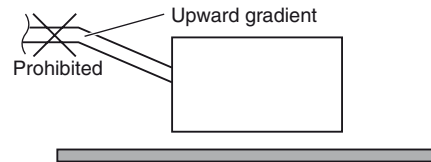

Fig.3-12
- Do not install the pipe with an upward gradient from the connection port. This will cause the drain water to flow backward and leak when the unit is not operating. (Fig. 3-12)